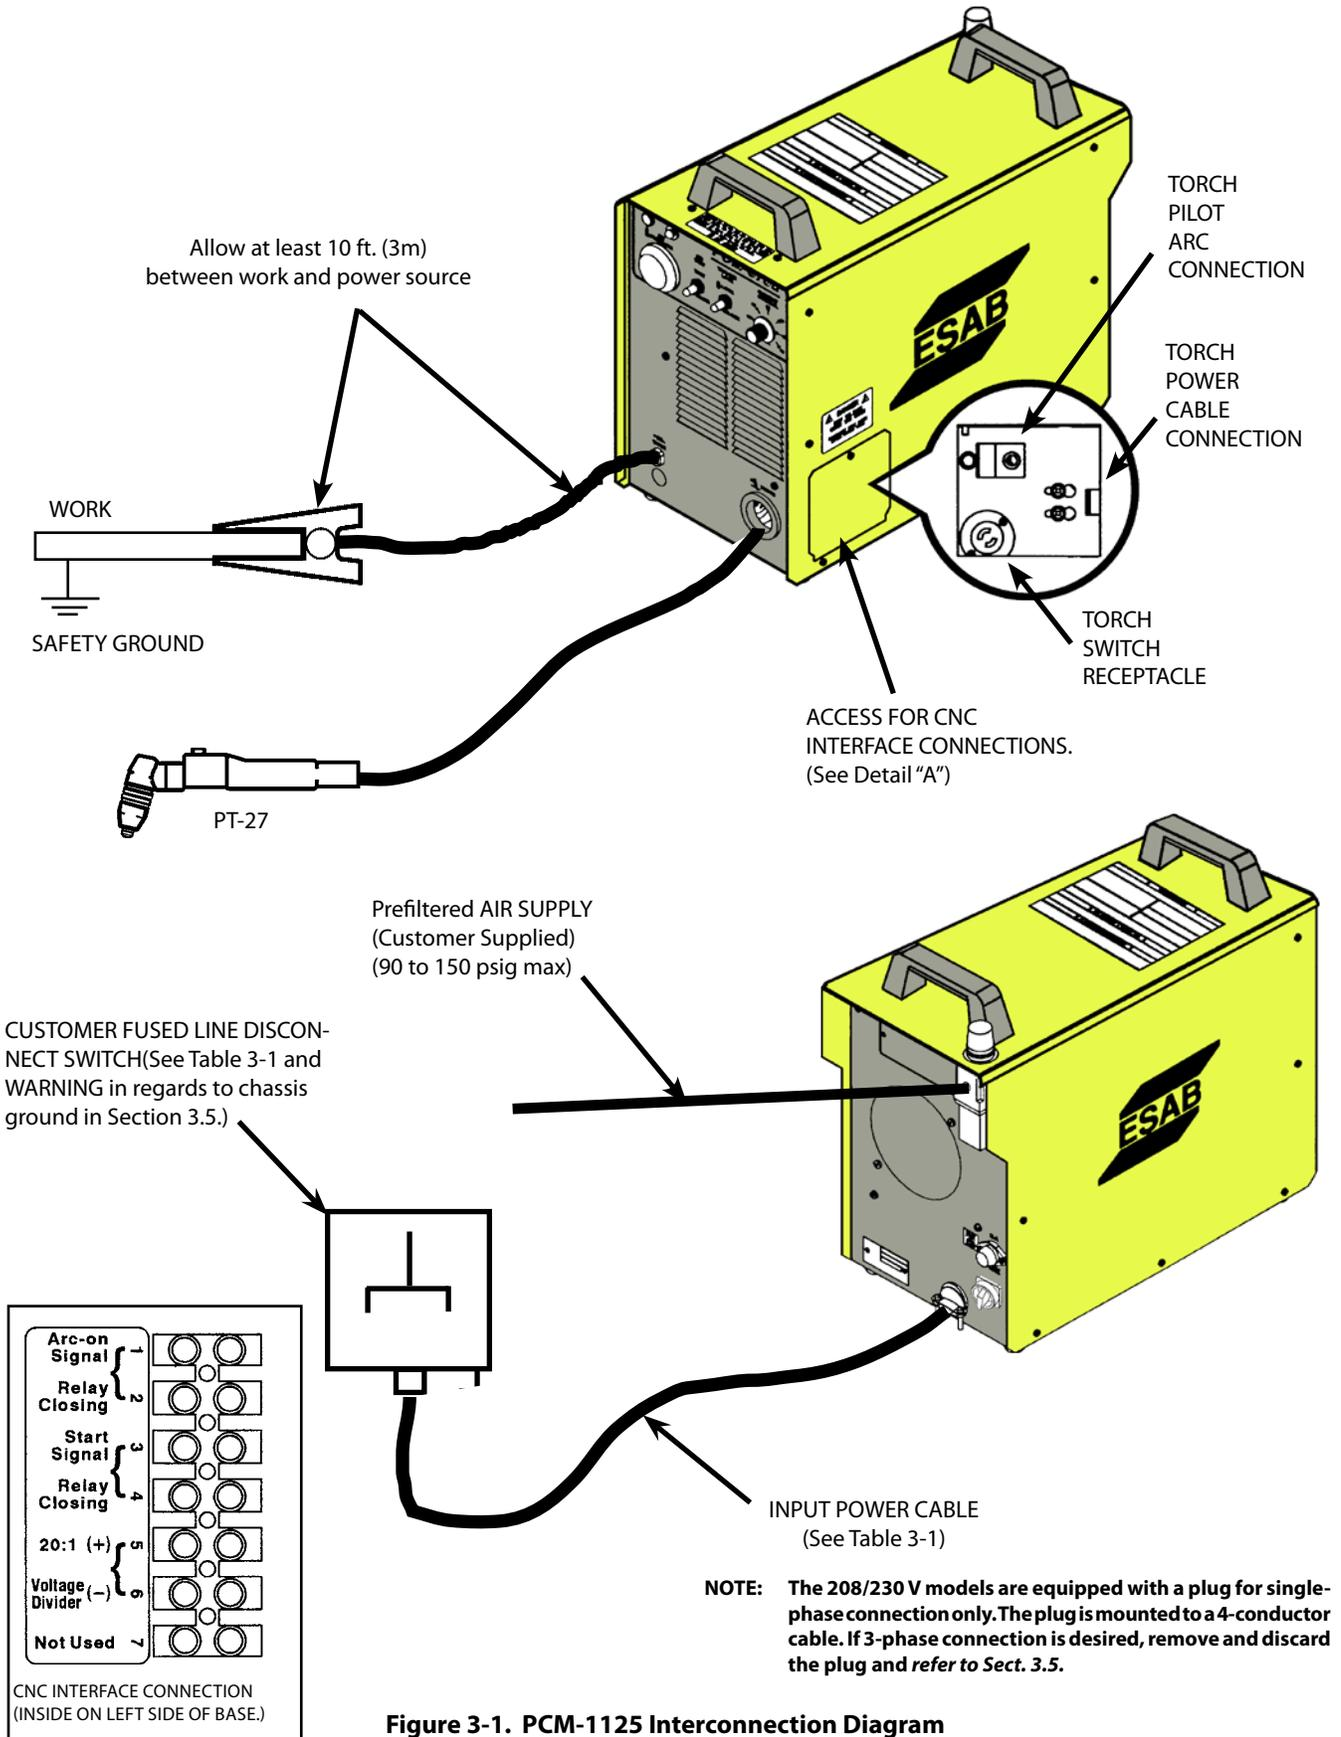

Figure 3-1. PCM-1125 Interconnection Diagram
3.5 PRIMARY ELECTRICAL INPUT CONNECTIONS (FIGURE 3-1)
A line (wall) disconnect switch with fuses or circuit breakers should be provided at the main power panel (see Fig. 3-1 and Table 3-1 for fuse sizes). The input power cable of the console may be connected directly to the disconnect switch or you may purchase a proper plug and receptacle from a local electrical supplier. If using plug/receptacle combination, see Table 3-1 for recommended input conductors for connecting receptacle to line disconnect switch.
3.6 SECONDARY (OUTPUT) CONNECTIONS (REFER TO FIG. 3-1)